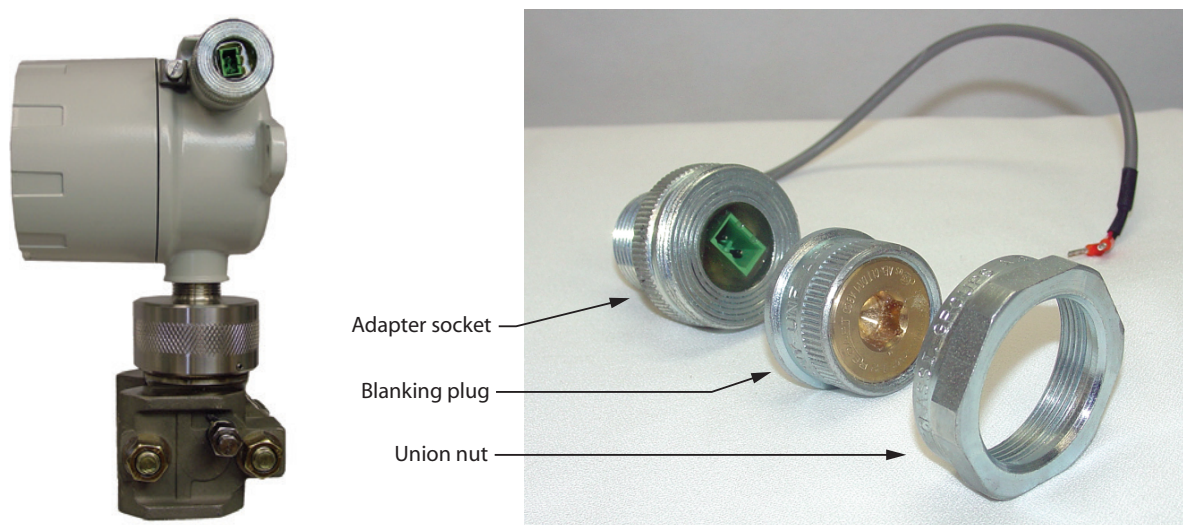

Figure A.7—Explosion-proof communications adapter
The explosion-proof communications adapter (Figure A.7, page A-4) provides an RS-485 connection for connecting a laptop or PC to the instrument without removing the instrument cover. When the adapter is ordered with a Scanner 2000, it is factory installed. It may be relocated to either conduit opening in the instrument housing. Separate part numbers are provided for CSA and ATEX models, as the ATEX model is constructed with ATEX-approved materials.
1. Unscrew the union nut to expose the connector socket shown in Figure A.7, page A-4. A blanking plug will be removed with the union nut. Store the union nut and blanking plug in a safe place. (They will need to be reinstalled when the adapter is not in use.)